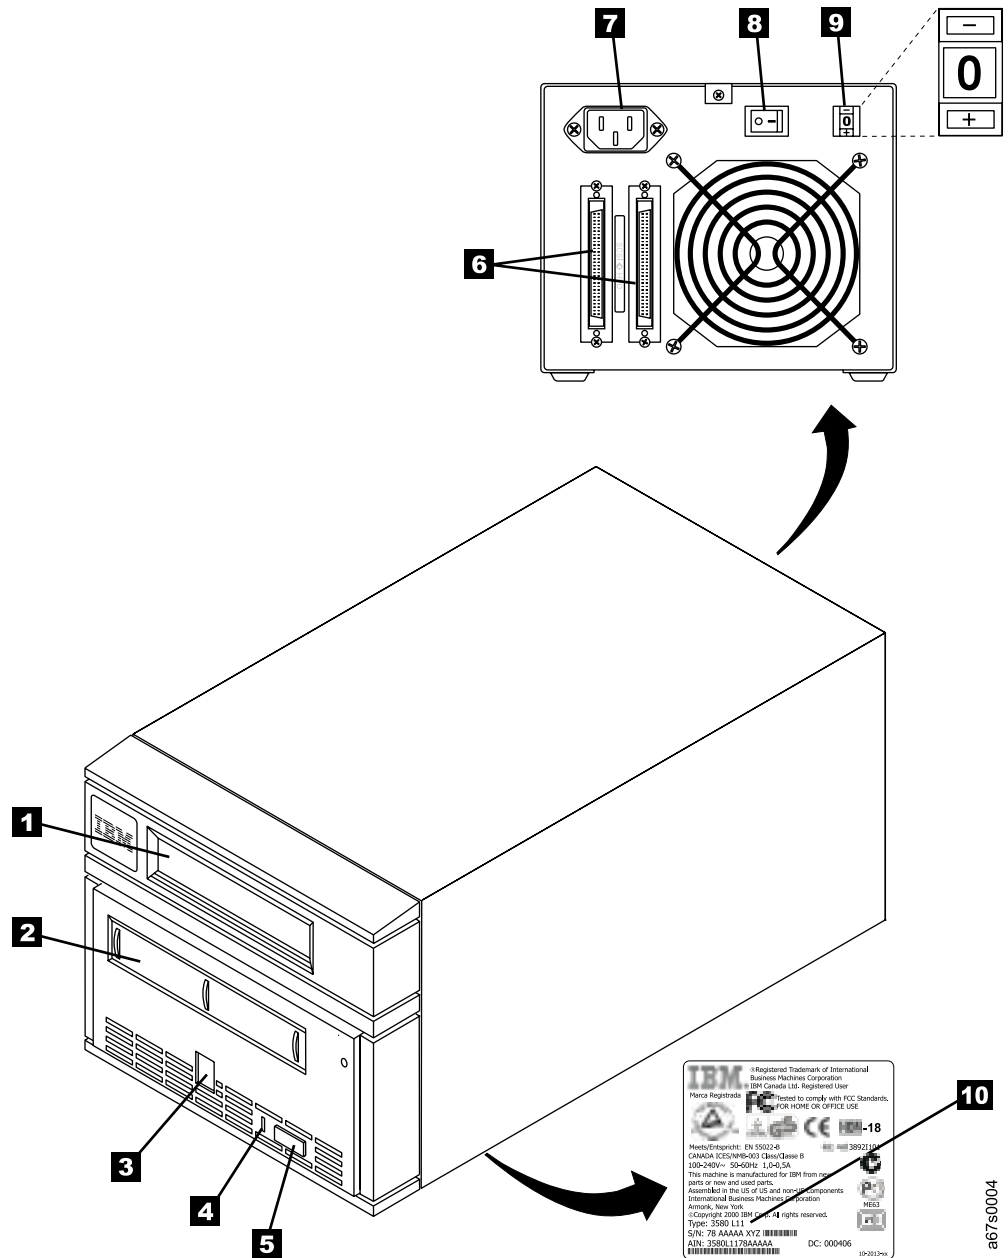

Figure 2. Components of the 3580 Tape Drive
- ___ 3. Tilt the 3580 Tape Drive on its side and locate the label that gives the machine type, model number and serial number of the unit (see **10** in Figure 2 on page 7). Make a note of these numbers and store them in an easily accessible place. Should you need to contact IBM Technical Support, you will be asked for these numbers.
- ___ 2. Locate the SCSI address switch at the rear of the 3580 Tape Drive (see **9** in Figure 2 on page 7).
- ___ 1. Ensure that the power switch on the 3580 Tape Drive is set to off by pressing 0 on the switch (see **8** in Figure 2 on page 7).